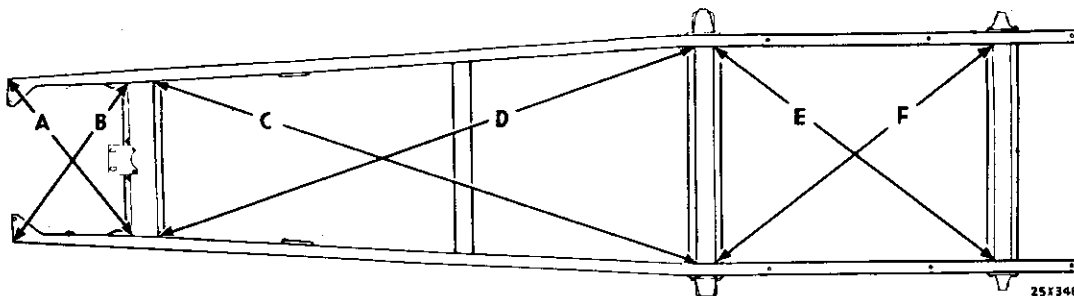
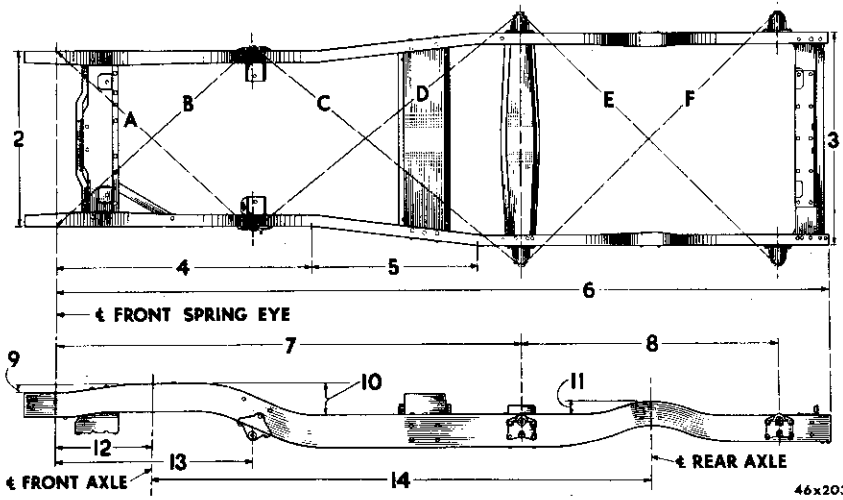

Fig. 1--Frame Diagonal Alignment
Fig. 2—Frame Alignment (B-4-PW)
Figures 2, 3, 4, 5, 6 and 7 provide various dimensions which may be used when checking frame alignment. Each of these dimensions is the true length between two points as measured with a steel tape. However, some are horizontal dimensions and should not be scaled on the surface of the metal.
Figure 1 shows a few of the various diagonal measurements that may be made to check the "squareness" of the frame. Measuring a frame diagonally is a quick method of determining which section of the frame is bent and where force should be applied to restore correct alignment.
When the truck body is removed, the frame may be easily checked for alignment by measuring the diagonals (Fig. 1) with trammels or steel tape and by checking the dimensions provided in Figures 2, 3, 4, 5, 6 and 7.
indicated by the diagonal lines in Figure 1. Suspend the plumb-bob slightly above the floor. When the plumb-bob stops swinging from side-to-side, mark the floor with chalk directly beneath the plumb-bob. The chalk marks made on the floor will represent the various points of the frame to be checked diagonally.
- (3) Move the truck and measure the distances between the chalk marks on the floor.
- (4) Measure the distance between the points connected by line "A," in Figure 1. This distance should agree within $\frac{1}{4}$ inch with the distance between the points connected by line "B."
- (5) The distance between the points connected by line "C" should agree within $\frac{1}{4}$ inch with the distance between the points connected by line "D."
The diagonals, shown in Figure 1, represent only a few that may be checked. Many others may be measured in the same manner. However, when measuring diagonals, make sure that any two diagonals compared represent exactly corresponding points on each side of the frame.
B-4-PW 126" W.B. (Refer to Fig. 2)